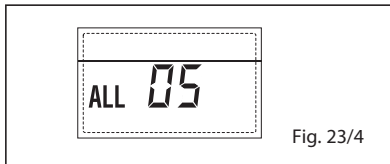

Fig. 23/4
– FLAME BLOCK ALARM 06 (fig. 23/5)